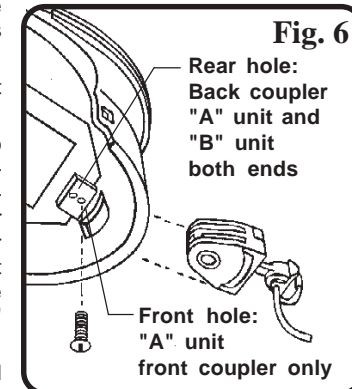

Fig. 6
15. The front "A" unit coupler must be removed before the body shell can be replaced on the chassis. Re-attach the coupler to the front end of the "A" unit by inserting it through the pocket in the pilot. See Fig. 6.